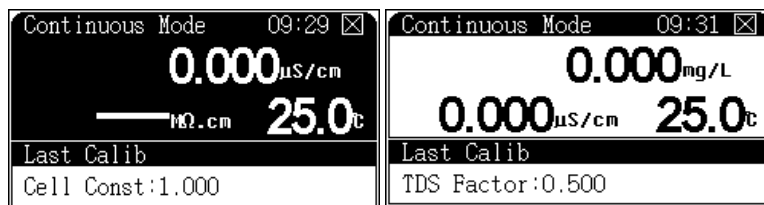

Figure 23 Viewing parameters while measuring
- 1 While performing a measurement, press **[Mode]** to conveniently view other parameter values. The screen display highlights the measuring window as shown in Figure 23.